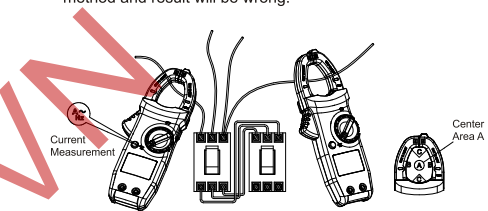

Figure 2
1. AC current/frequency measurement (Figure 2)